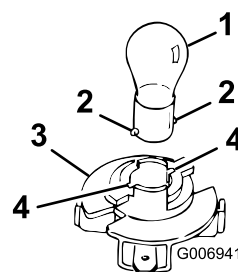

Figure 41
3. Rotate the bulb holder 1/4 turn clockwise and remove it from the reflector (Figure 41).
4. Insert and rotate the bulb counterclockwise until it stops (approx. 1/4 turn), and remove the bulb from the bulb holder (Figure 41).
2. Insert the base into the holder (Figure 41).